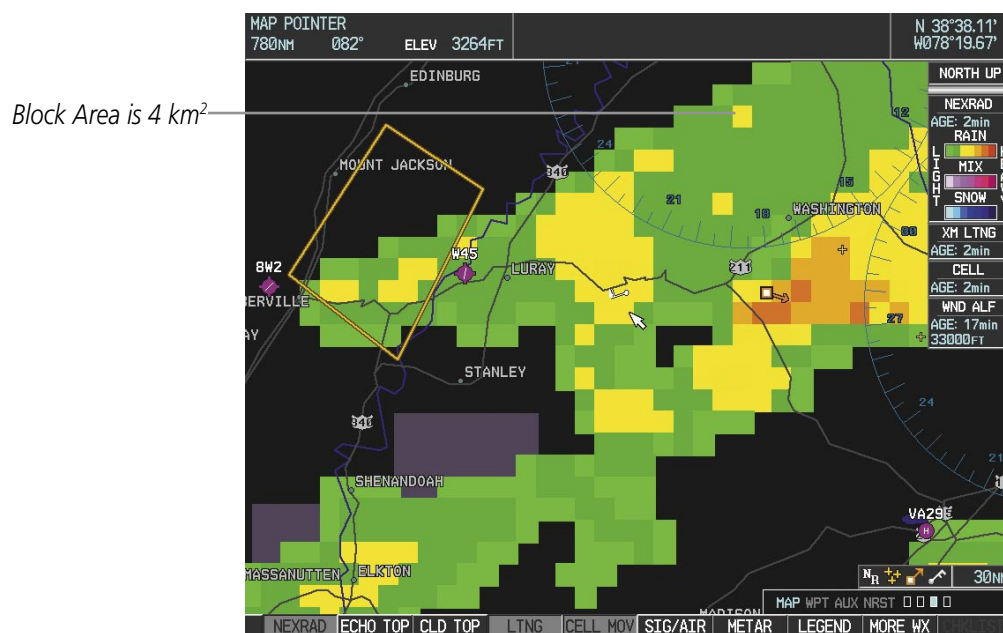

Figure 6-12 NEXRAD Data - Zoomed
- When zoomed in to a range of 30 nm, each square block on the display represents an area of four square kilometers. The intensity level reflected by each square represents the *highest* level of NEXRAD data sampled within the area (Figure 6-12).